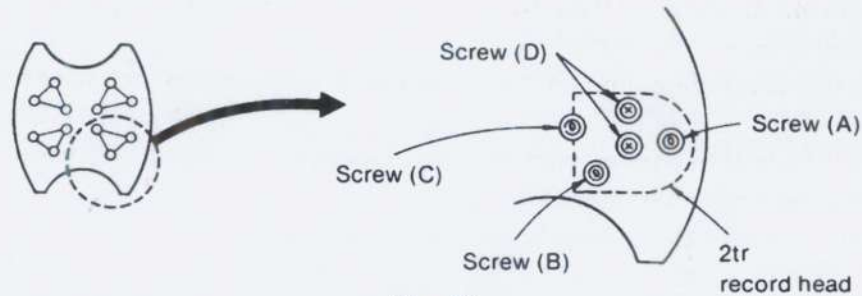

Fig. 57
- The screws for each adjustment are in the positions shown in figure 57.